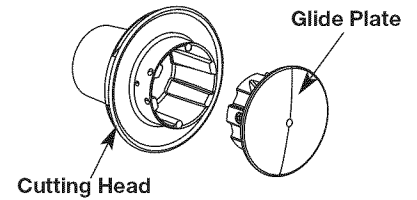

Fig. 14
3. Reinstall line glide plate (Fig. 14). The glide plate is a keyed item and will only fit one way. If it does not go into the cutting head smoothly, DO NOT force it. Rotate the glide plate until it slides into the cutting head easily.